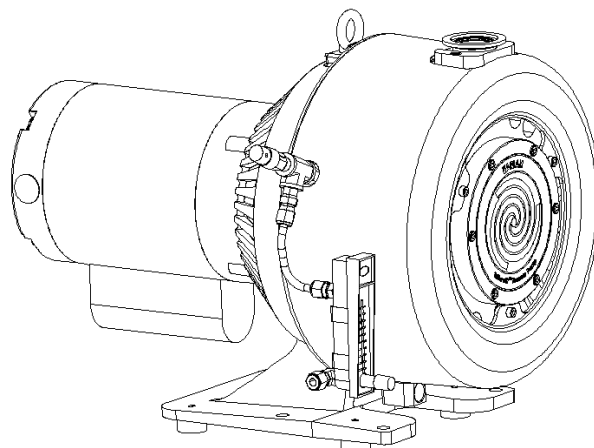

Figure 3: Gas Ballast Purge Installation
2. Install the Tee Subassembly into the Gas Ballast Port. Tighten moderately until the Swagelok fitting is pointing down as shown in Figure 3: Gas Ballast Purge Installation.